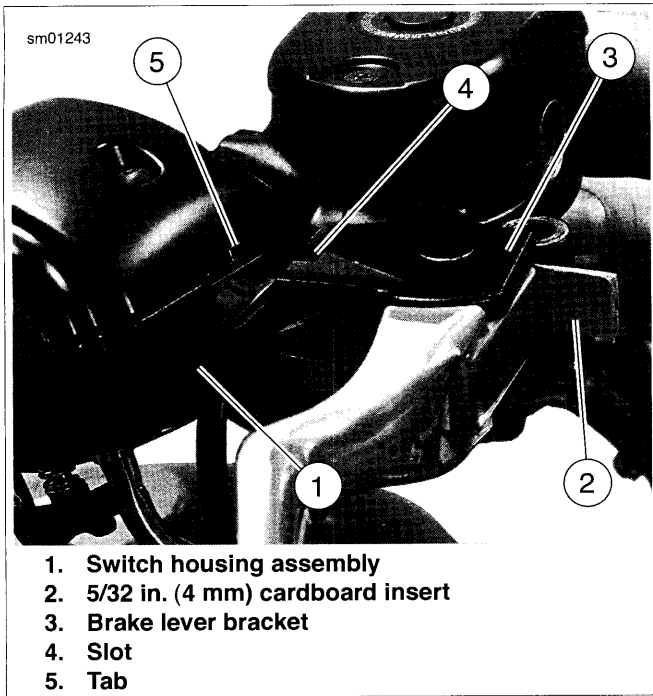

Figure 2-51. Fitting Brake Lever/Master Cylinder To Right Handlebar Switch Housing
1. See Figure 2-51. Position brake lever/master cylinder assembly inboard of switch housing assembly (1) engaging tab (5) on lower switch housing in slot (4) at top of brake lever bracket (3).